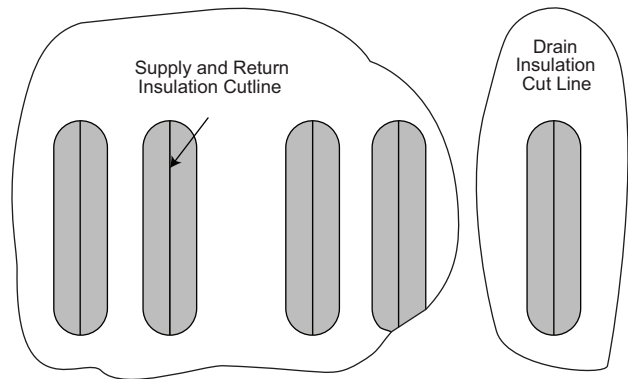

Fig. 22 — 42SUA Unit Knockout Insulation Removal
6. Use a sharp retractable knife (see Fig. 22) and vertically cut the insulation down the center of the riser and drain knockouts the full length of the knockout.